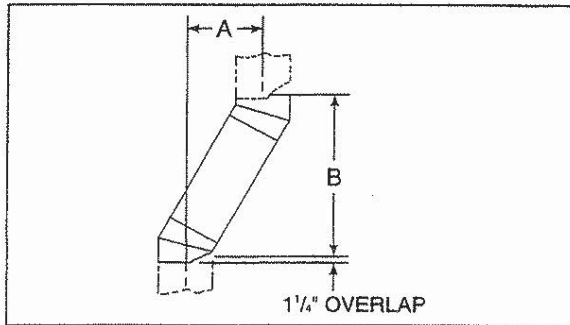

Figure 8
1. Measure how far the chimney needs to be shifted to enable it to avoid the overhead obstacle. See Figure 8, dimension "A".
Example: Your "A" dimension from Figure 8 is 14 1/2". Using Table 1, the dimension closest to but not less than 14 1/2" is 14 3/4" using a 30° offset/return. It is then determined from the table that you would need 33 3/8" (Dimension "B") between the offset and return. The chimney components that best fit your application are two HSL312's.